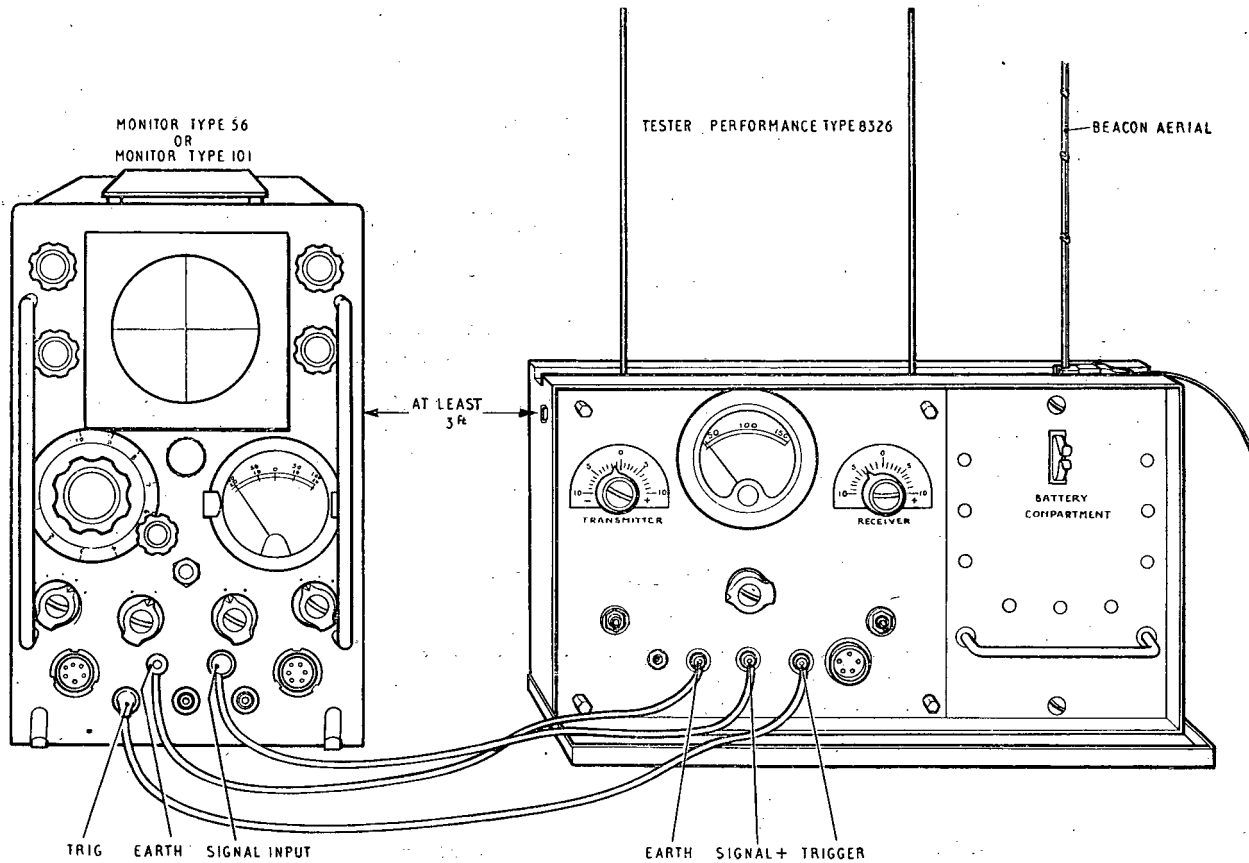

Fig. 1. Tester performance Type 8326 coupled to monitor for testing SARAH beacon.
1. A tester performance Type 8326 (Ref. No. 10S/16723) will be required. A front panel view of the tester performance Type 8326 is shown in fig. 1.
- (2) Plug the headset (para. 4) into the phone-jack on the front panel of the tester, and set the selector switch on the tester performance to BEACON. Allow approximately twenty seconds for the beacon to warm up, after which the characteristic low frequency beacon tone should be heard in the headset.
- (3) Rotate the RECEIVER control on the tester performance for maximum meter indication on the tester. The RECEIVER control pointer should lie between +2 and -2 on the graduated scale. Verify that a low-pitched tone is audible in the headset.
- (4) As shown in fig. 1, connect the SIGNAL + terminal on the front panel of the tester performance to the SIGNAL INPUT of the monitor Type 56, and similarly the TRIGGER and EARTH terminals on the tester performance to the TRIGGER and EARTH terminals of the monitor.